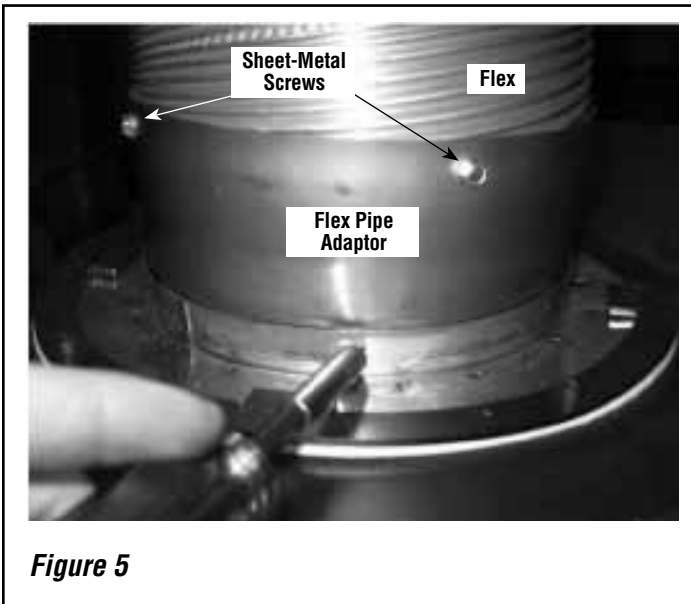

Figure 5
Step 2. Use of a stainless steel flex liner will require a flex pipe adaptor like the one seen in **Figure 5** (available from Security Chimneys™). Slide the adaptor over the flex and attach with sheet metal screws as shown in **Figure 5**. Slide the adaptor into the reducer flange and flue opening as shown in **Figure 5**. Use the four sheet metal screws supplied in the kit to fasten the flex adaptor to the reducer.